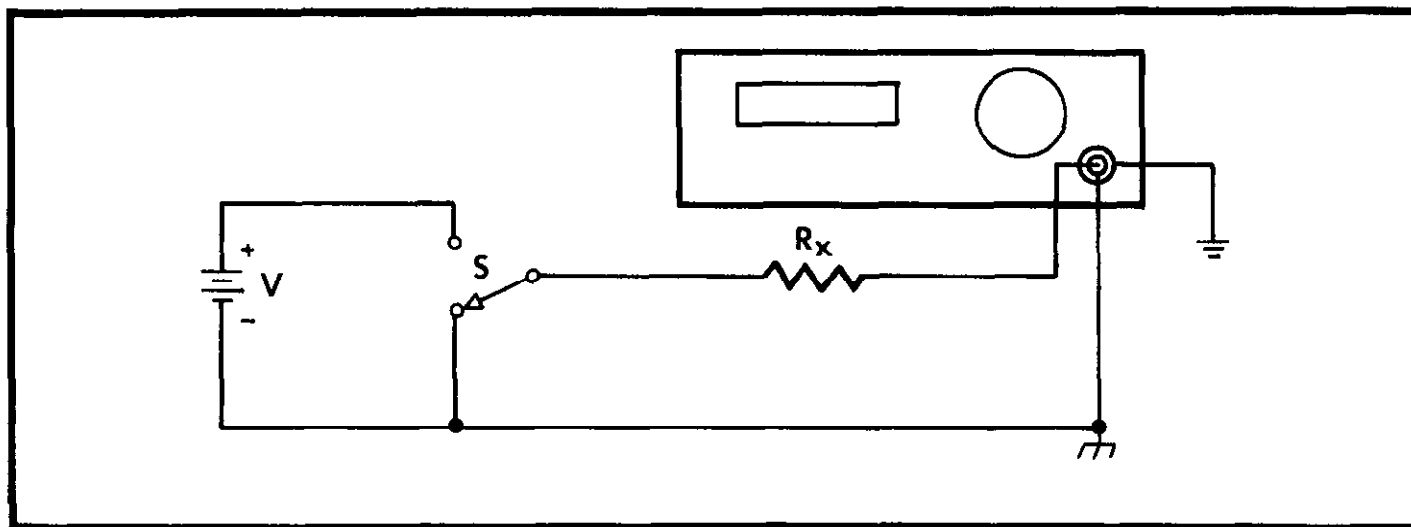

FIGURE 6. Volt-Ammeter Resistance Measurement.
3. Connect the voltage source, switch, and unknown resistance as shown in Figure 6. Since the Electrometer is used for the measurement of current, refer to Paragraph 2-5 for complete instructions.
4. To make a resistance measurement, place Switch S in the "OFF" position as shown in Figure 6. Adjust the voltage source for a predetermined voltage. Place Switch S in the "ON" position to apply the voltage across the unknown resistance. Allow a period of time for the current through the unknown resistance to stabilize. Unlock the ZERO CHECK Button to take a current reading. Adjust the RANGE Switch and SENSITIVITY Switch to obtain a satisfactory reading.